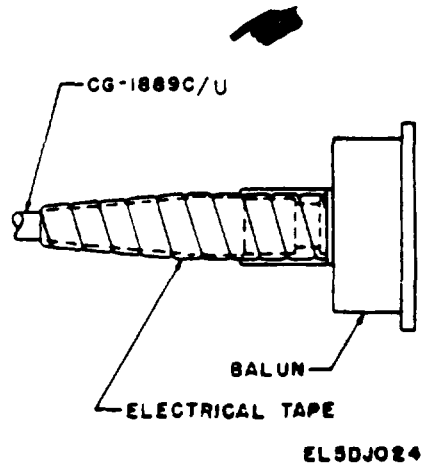

Figure 2-19. Weatherproofing mated connectors.
(3) Tightly **wrap** several layers of tape with a 50 percent overlap over the built-up junction. Use a minimum of four layers. The completely taped covering should extend beyond the connector for a distance equal to 8 to 12 times the diameter of the cable and have a smooth and symmetrical contour (fig. 2-19).